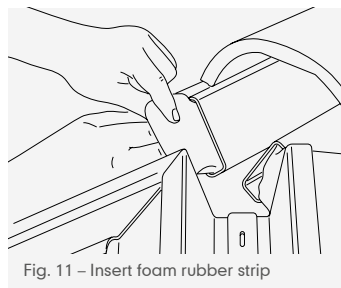

Fig. 11 – Insert foam rubber strip
- 23 At hip apex, mitre dry hip batten sections together as closely as possible. When forming a junction with the Marley ventilated dry ridge system, ensure the closed cell foam rubber strip 100mm longer than required, and insert into dry ridge batten sections to ensure a watertight seal (Fig. 11).